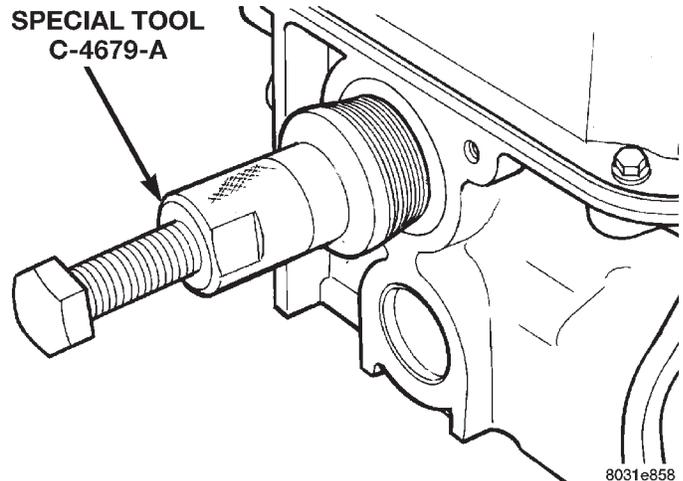

Fig. 26 Removing Camshaft Oil Seal
(3) Remove camshaft seal using Special Tool C-4679-A (Fig. 26).